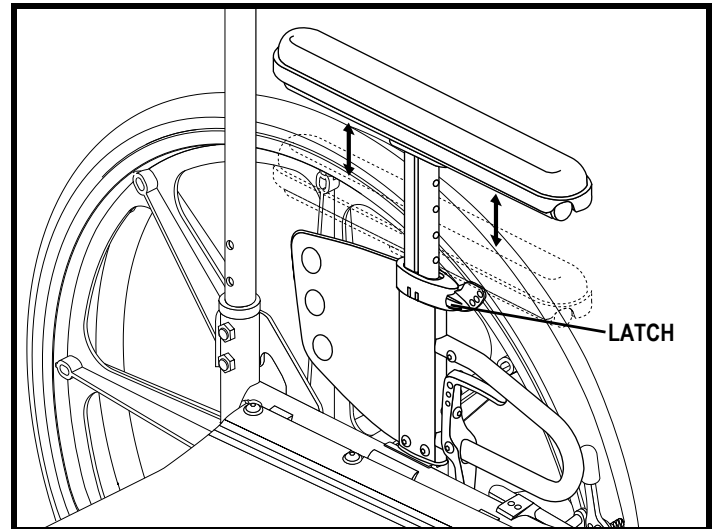

Figure 29. Single-post Armrest Height Adjustment
1. Rotate the latch located on the armrest. See figure 29.